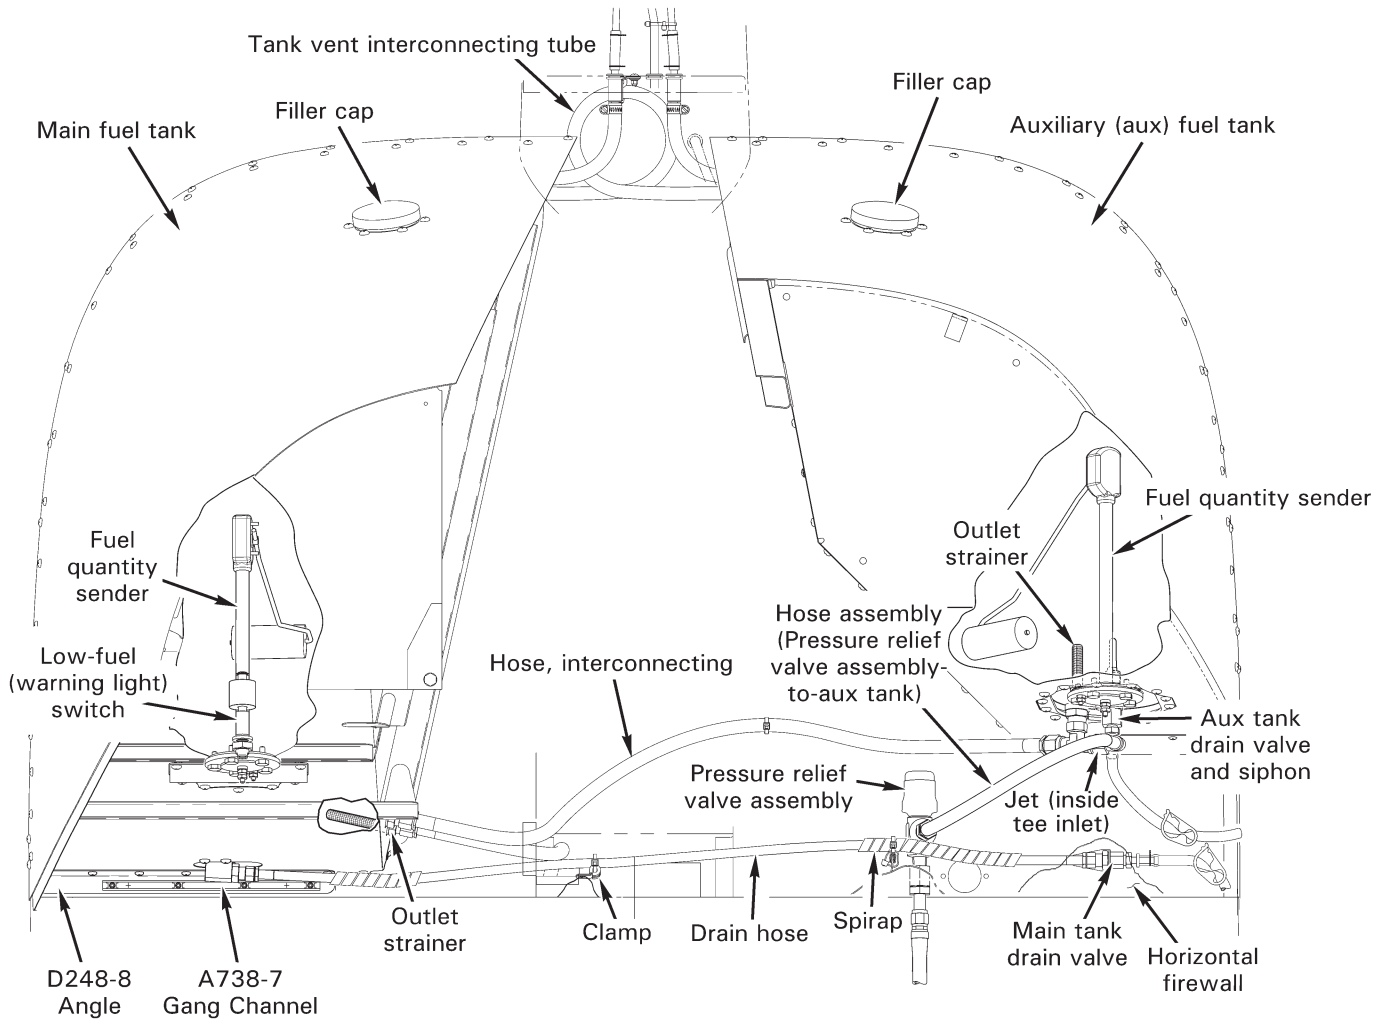

**FIGURE 8**
62. Refer to Figure 8. Lay out new vent line dimension, cut lines square, and deburr inside and outside circumference.